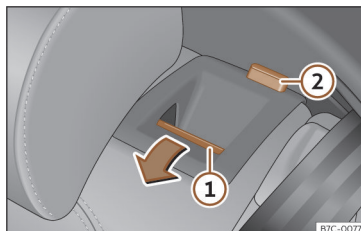

Fig. 103 Rear seat: folding the backrest.
- Pull the unlock button >>> Fig. 103 (1) forward and lift the backrest at the same time. The rear seat backrest is not engaged when the red marking of the button (2) is visible.